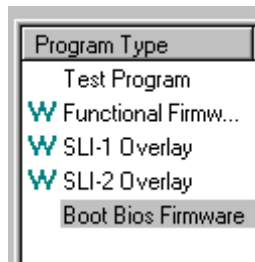

Figure 47: Iputilnt, Program Type list
2. If the x86 BootBIOS Bootup Message appears when you boot the system (Figure 47), skip to step 2. Otherwise enable the x86 BootBIOS Bootup Message: